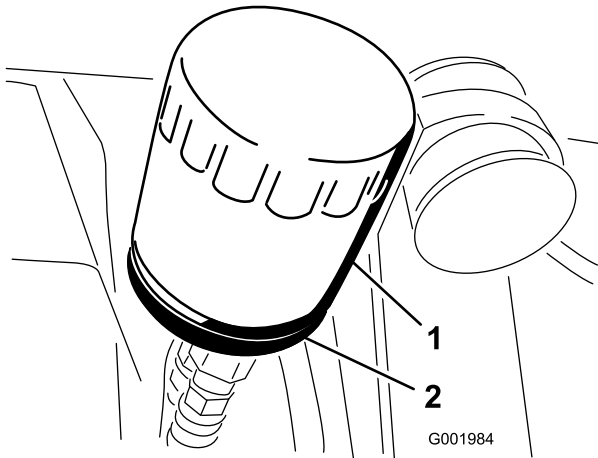

Figure 47
2. Remove the oil filter (Figure 47).
5. Install the replacement oil filter to the filter adapter. Turn the oil filter clockwise until the rubber gasket contacts the filter adapter, then tighten the filter an additional 1/2 turn (Figure 47).